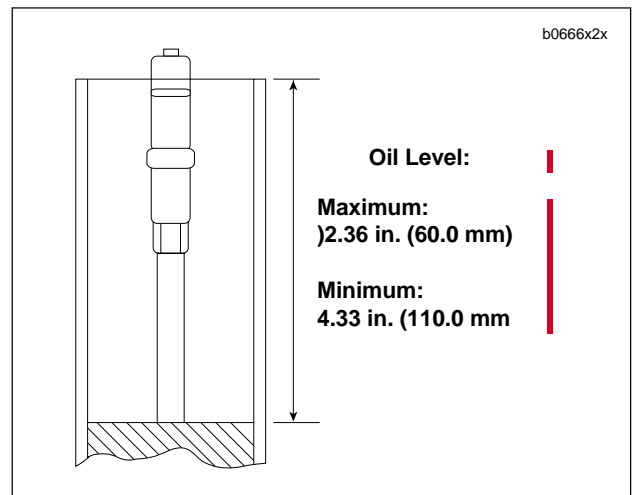

Figure 2-56. Oil Level Measurement
13. Place the centering plate (15) onto the damper (14) and insert the assembly into the slide pipe (17).
14. Place the piston rod and outer tube (8) in the full bottomed position.
15. See Figure 2-56. Pour the recommended fork oil into the slide pipe to a level between the maximum and minimum limits. Additional information on setting oil levels can be found under 1.14 FRONT FORK.